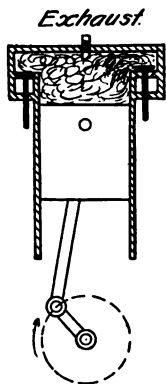

FIG. 6.
**Exhaust, Fig. 6.** The exhaust valve opens at or near the end of the expansion (ignition) stroke and the up travel of the piston on this fourth (exhaust) stroke forces the gases of combustion out of the cylinder completing the cycle.